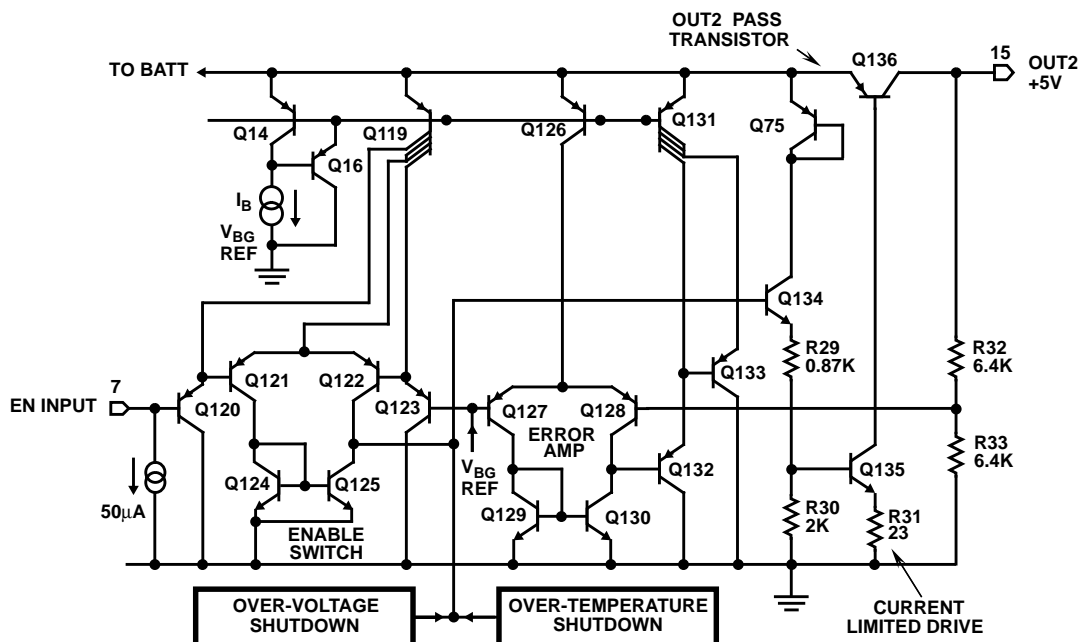

FIGURE 3. OUTPUT2 DRIVER AND ERROR AMPLIFIER WITH THE ENABLE CONTROL
**Regulation** - The regulated output stages of the CA3277 have similar circuits, each having an error amplifier to compare the output voltage to the bandgap reference voltage. The circuit of the 5V/Switched regulator is shown in Figure 3. By feedback, the output voltage is differentially compared to the bandgap reference voltage. The error signal is then amplified to drive a PNP pass transistor and maintain a stable 5V output with both line and load regulation over the full operating temperature range. Except for the ENABLE control of OUT2, the OUT1 drive circuit is similar to the OUT2 circuit.